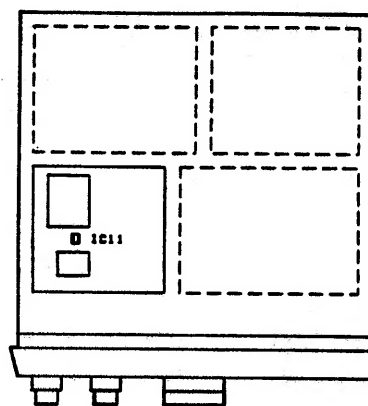

FIGURE 4
6. Locate the A.F. board on the bottom of the transceiver. Figure 4